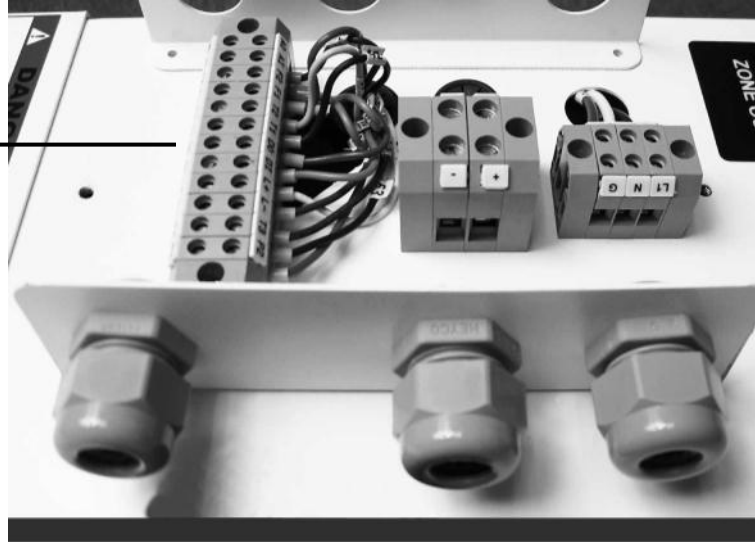

Figure 27
3. Locate the thermostat connection terminals T1 and T2. Reference Figure 27.
4. Connect a wire to the desired zone terminal and connect the opposite end of the cable to a ground source. Reference Figure 27.
2. Open the Aqua-Hot’s drain valve located at the front of the heater. Reference Figure 27.